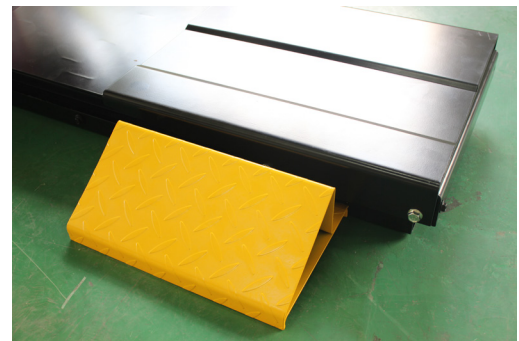

Figure 10 - Setup RAMP
9. Insert rear WHEEL RAMP lip into the slot of BASE TRACK (fig 10).